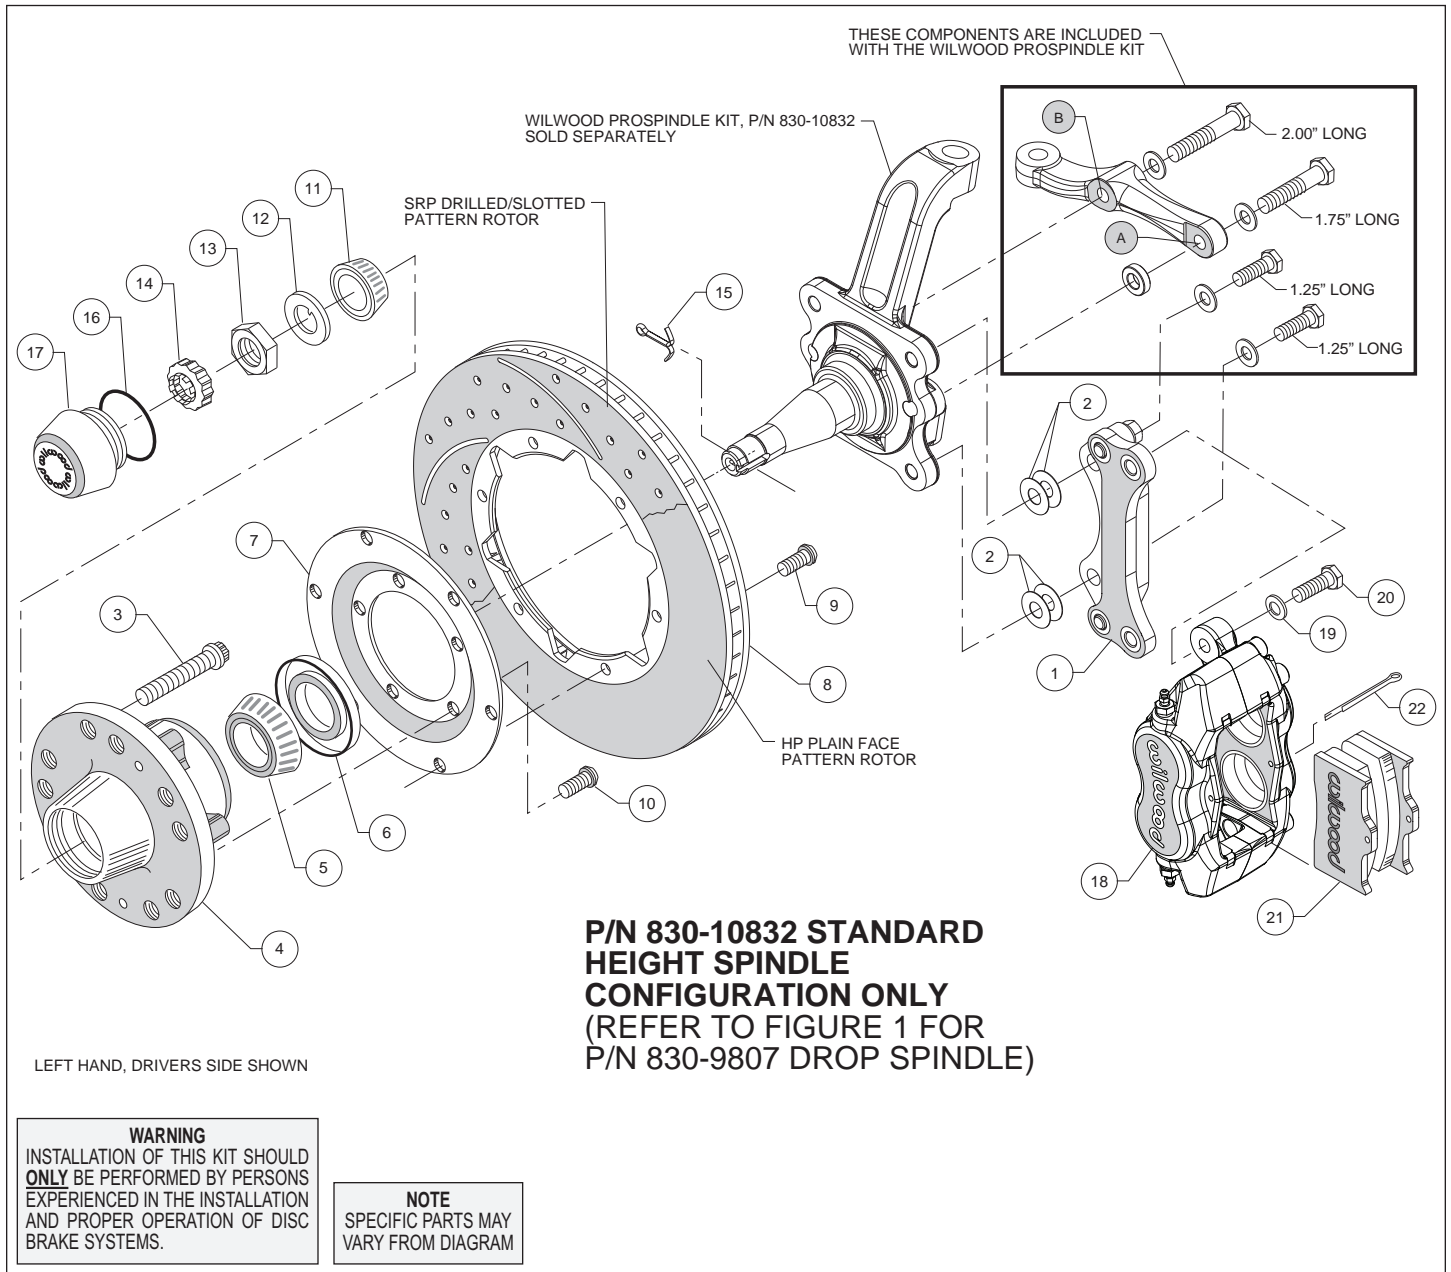

Figure 2. Installation Configuration For Standard Height Spindle, P/N 830-10832
- Orient the bracket as shown in Figure 2 and Photo 2. Install using 1.25" long bolts and .06" thick washers (from ProSpindle kit), and two .016" thick shims (2) on each bolt between the bracket and spindle, Figure 2. Temporarily tighten mounting bolts. **NOTE: The bracket must fit squarely against the mounting points on the spindle.** Inspect for interference from casting irregularities, machining ridges, burrs, etc. Later, after the caliper alignment has been checked, the mount bolts will be secured using red *Loctite*[®] 271.
- Orient the steering arm, and identify the hole marked 'A', as shown in Figure 2. Install using 1.75" long bolt, .06" thick washer, and .30" thick spacer (all from ProSpindle kit), Figure 2.
- Finish attaching the steering arm through the hole marked 'B', as shown in Figure 2. Install using 2.00" long bolt and .06" thick washer (from ProSpindle kit), Figure 2.